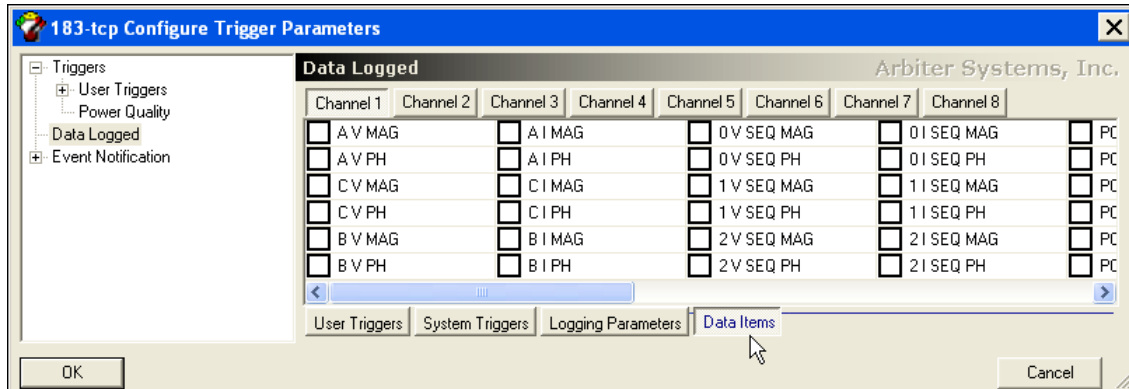

Figure 8.7: Configure Data Items Screen
8. Click the Data Items tab to select the type of data logged once an event is triggered. Items change with each type of data selected under “Logging Parameters.” See Figure 8.7.